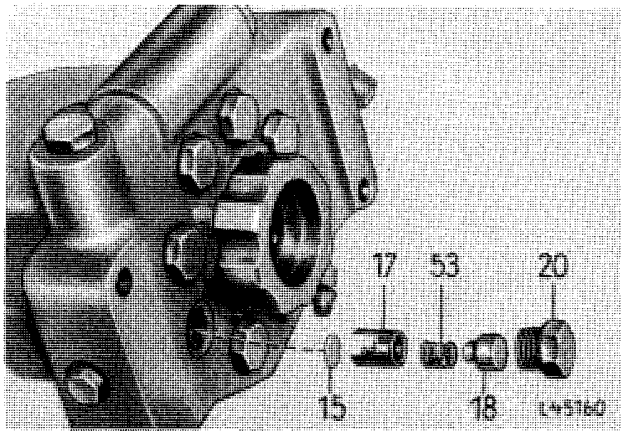

Fig. 3 — Removing Exhaust Valves
5. Turn pump housing over (see fig. 3). Remove exhaust valve plugs 20 and exhaust valve assemblies.